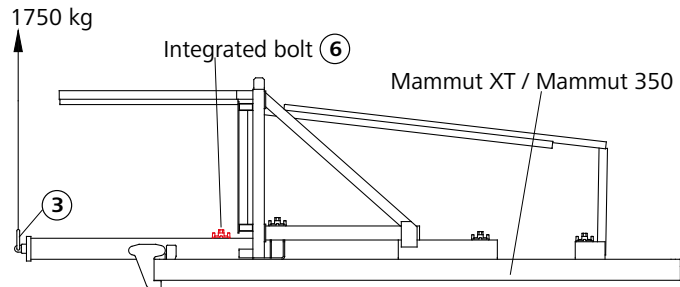

Fig. 5 M lifting arm 1750 SB
When raising horizontal formwork units, ensure that the formwork is on the ground (Figures 5 and 6)!
3. Rotate the clamp (4) upwards under the frame profile and secure it with the head bolt and the cotter pin (5).
4. The M lifting arm 1750 SB (1) must be bolted to a multi-function nut on the formwork using the integrated bolt (6), and the ST lifting arm 900 SB (2) must be secured using a separate flange screw 18 (7) (Ref. no. 29-401-10) (Figures 5 and 6)!